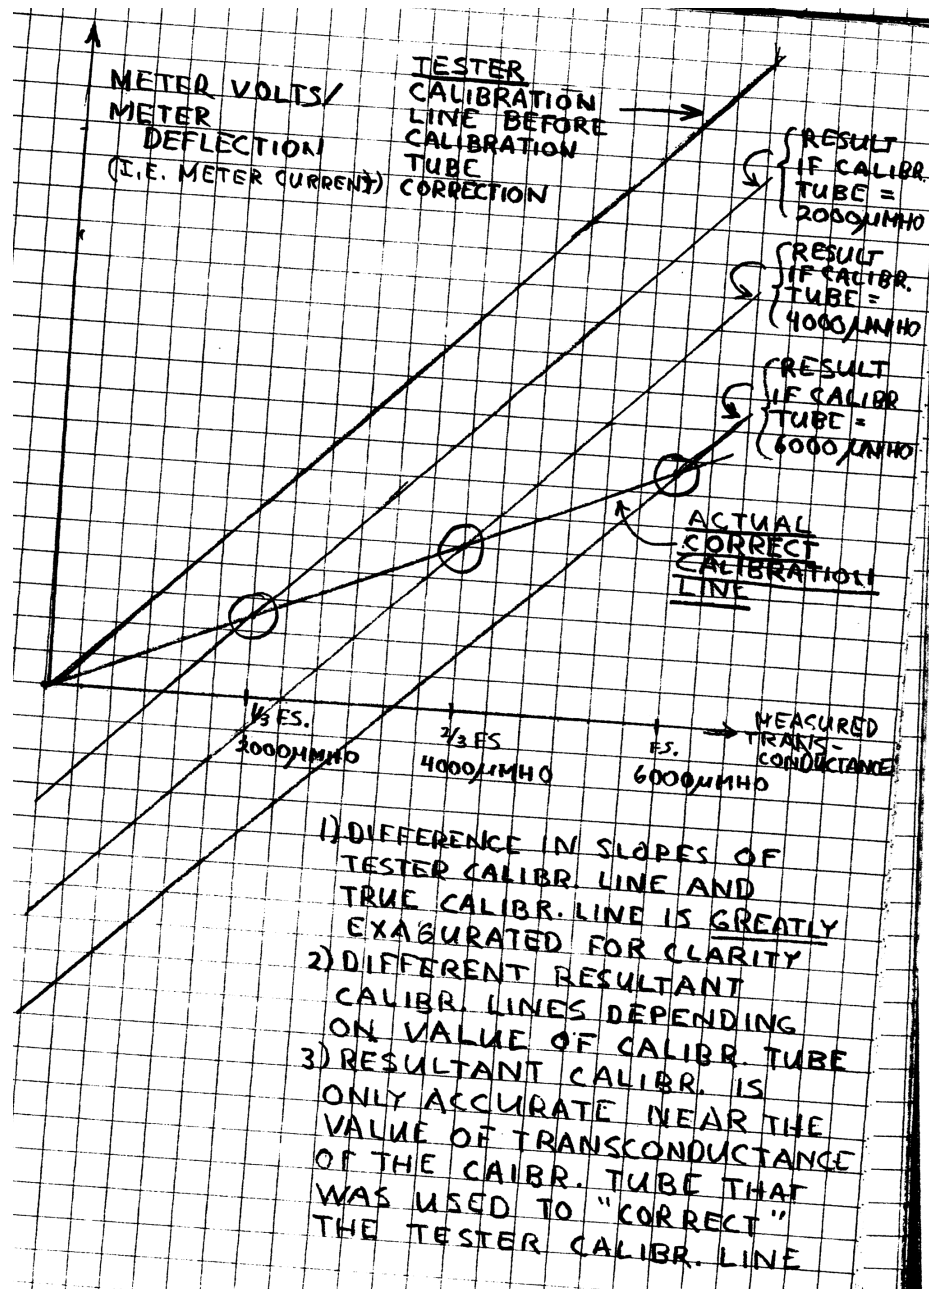

Figure 16: Calibration Tube Plot
3. At the end of the calibration procedure, the calibration tube is used to compensate for the above (and any other) shortcomings by changing the zero by what would otherwise be the (total) amount of error. Consider the graph of Figure 16 *Calibration Tube Plot* which illustrates this. (The curves in the graph are greatly exaggerated to make it easier to see - the actual error is relatively small). Note that the correction is made at whatever the value of the transconductance of the calibration tube that is used happens to be, and will be slightly different from one calibration tube to another, even if the transconductance of each calibration tube happened to be known perfectly and with no error. This calibration method results in a calibration line that is exact (but only for the C range) at the point of the transconductance value of the calibration tube but becomes increasingly inaccurate as you get farther away from that point in either direction and for some other calibration tube, the point where it was exactly correct would be different from the first tube unless both calibration tubes just happened to have exactly the same transconductance values. *(This means, for example, that if you had two perfectly accurate calibration tubes, one with a transconductance value of 40% of the full scale value of the transconductance range you happen to be “calibrating”, and one at 80% of the full scale value, that whichever one you used to make the “correction” with, the other tube would be guaranteed not to read it’s correct value.) In addition, and much worse, this changes the zero on **all the other ranges** as well, affecting their accuracy unpredictably. (This so-called calibration method causes the “calibration” to be correct at only one point on the actual calibration line of the tester and potentially incorrect **everywhere** else!)*
- b. True confessions: If you really think through the graphs in Figure 16 *Calibration Tube Plot*, you may note that the slopes of the “corrected” calibrations lines all have the same slope as the original uncorrected calibration line. Thus the situation I have shown would be the